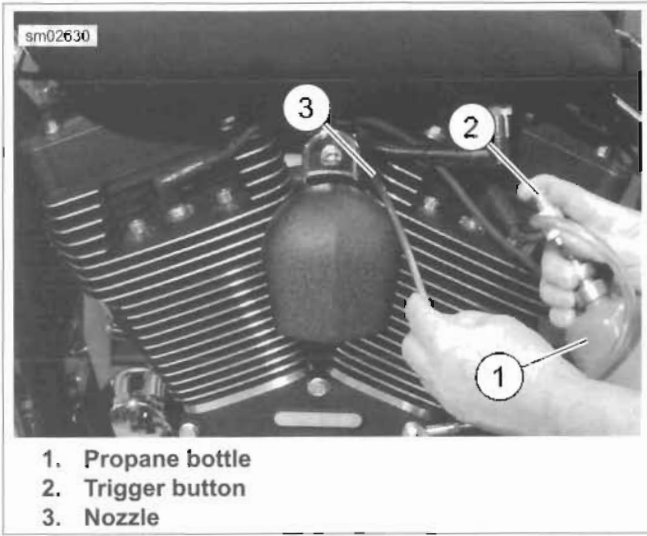

Figure 4-52. Checking for Leaks
2. See Figure 4-52. Aim nozzle (3) toward possible sources of leak such as intake manifold mating surfaces.
3. Press and release trigger button (2) to dispense propane. The tone of the engine changes when propane enters source of leak. Repeat as necessary to detect leak.